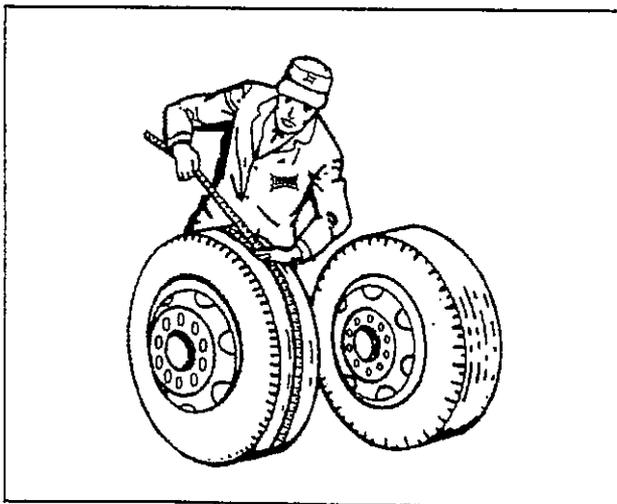

Fig. 4-9 Measuring Tape Method
a. **Tape Measuring Method:** Measure around each tire on the tread surface. A maximum difference of $3/4$ " is allowed between the two mating tires of a dual (See Figure 4-9).